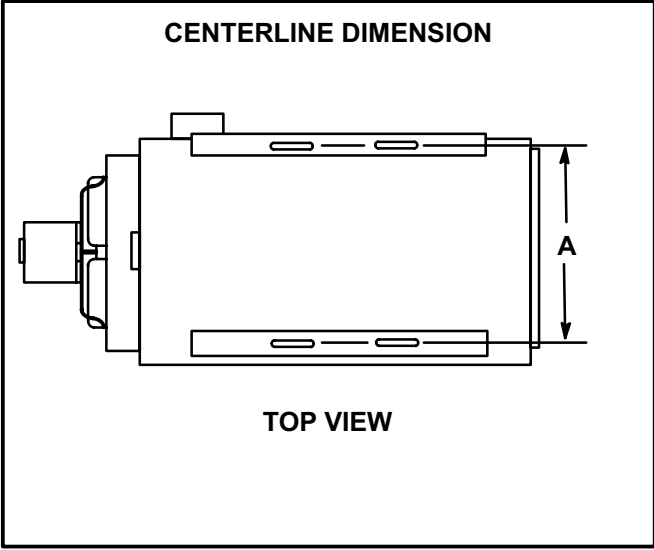

FIGURE 3
- 4- Assemble 3/4" pipe hangers (field provided) using figure 3 and table 1 for centerline dimension.